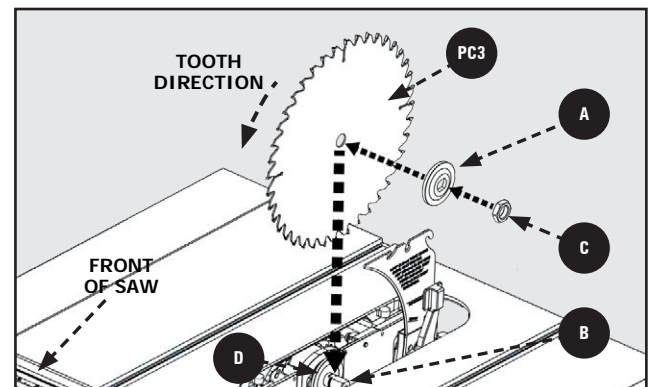

FIGURE 8
6. Place Blade (PC3) on the Arbor Shaft (B) with the teeth on the Blade pointing toward the front of the saw. Place Outer-Blade Washer (A) on the Arbor Shaft with the large side of the Washer against the Blade, then secure Blade Assembly with Nut. See Figure 8.